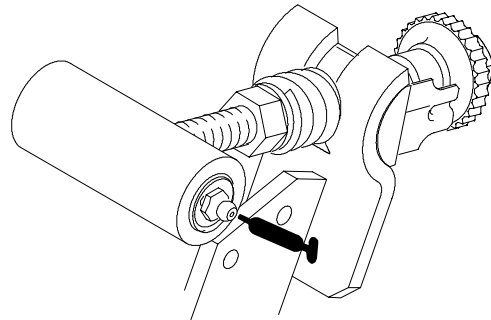
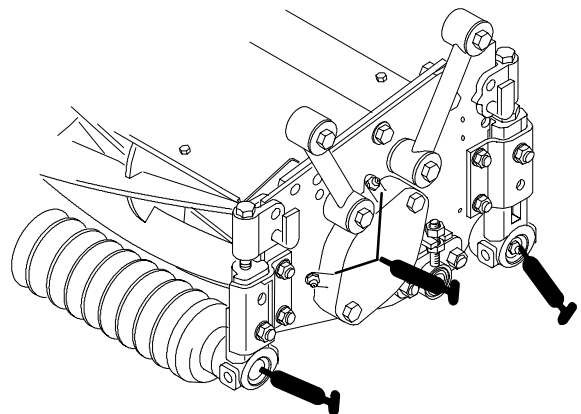

Figure 13
Figure 14
The grease fitting locations and quantities are: Bedknife adjuster (2), every 50 hours (Fig. 13); Reel bearings (2) and front and rear rollers (2 ea.) (Fig. 14).